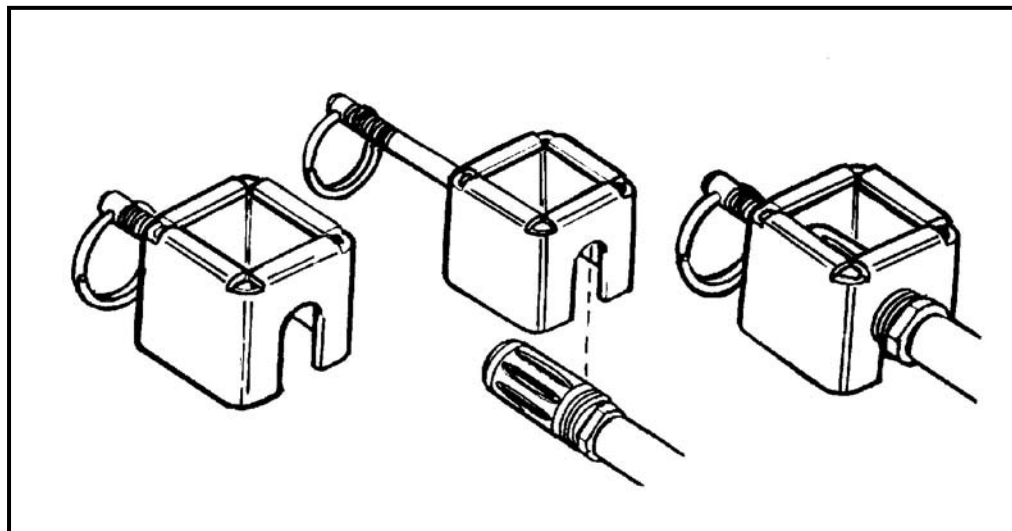

Figure A-4. Blank firing attachment.
(5) **Blank Firing Attachment (BFA), M15A2/M23.** The BFA (Figure A-4) attaches to the muzzle of the M16-/M4-series weapons. It is designed to keep sufficient gas in the barrel of the weapon to allow semiautomatic, automatic, or burst firing with blank ammunition (M200 only). After firing 50 rounds, the attachment should be checked for a tight fit. Continuous blank firing results in a carbon buildup in the bore, gas tube, and carrier key. When this occurs, the cleaning procedures in TM 9-1005-249-10 or TM 9-1005-249-34 should be followed. The M15A2 is painted red and is used on the M16-series weapons. The M23 is painted yellow and is used on the M4-series weapons. For identification, the M23 is stamped "M4 Carbine Only."